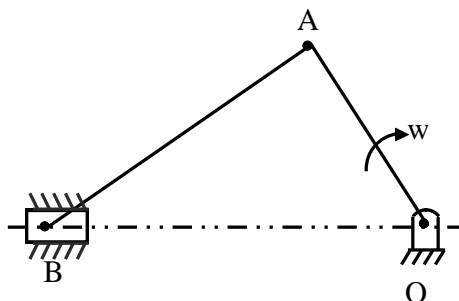

Fig. 4 (b)
- b) Locate the instantaneous centers of the slider crank mechanism as shown in fig. 4 b find the velocity of slider, OA = 160 mm, AB = 470 mm and OB = 600 mm, $W_2 = 12$ rad/sec clockwise. 8